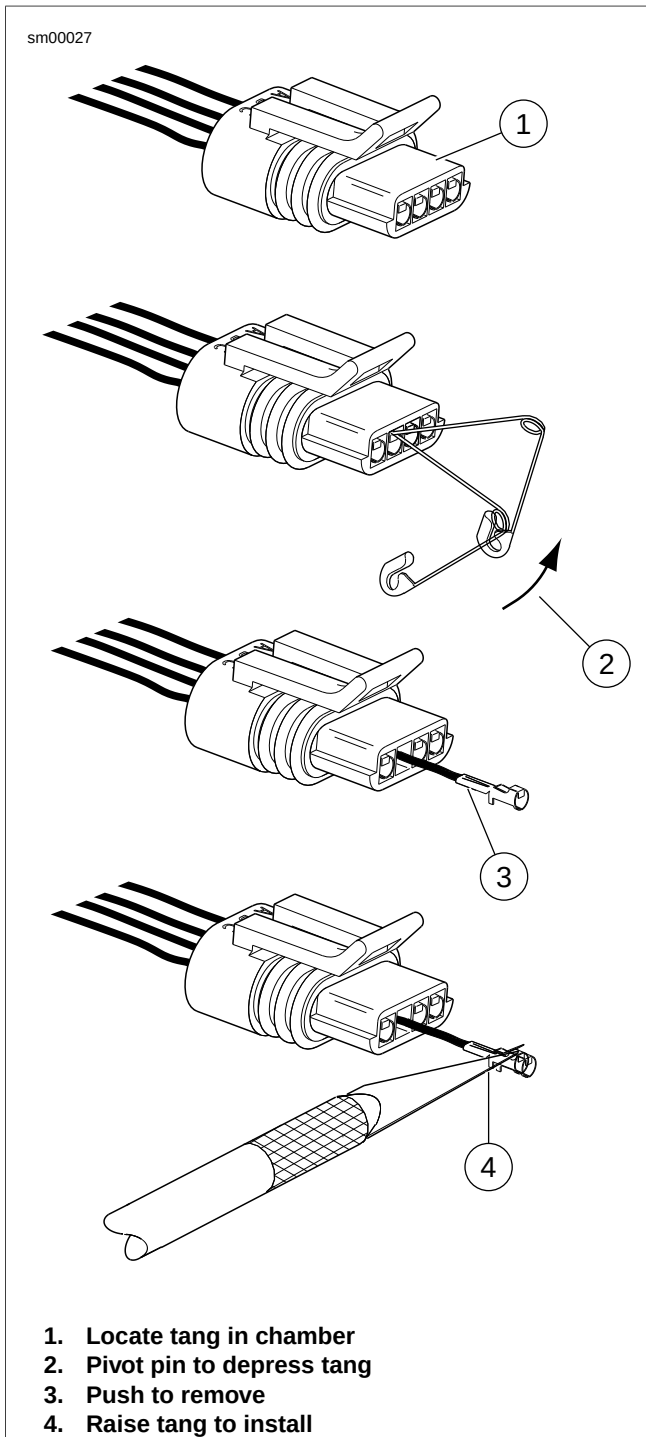
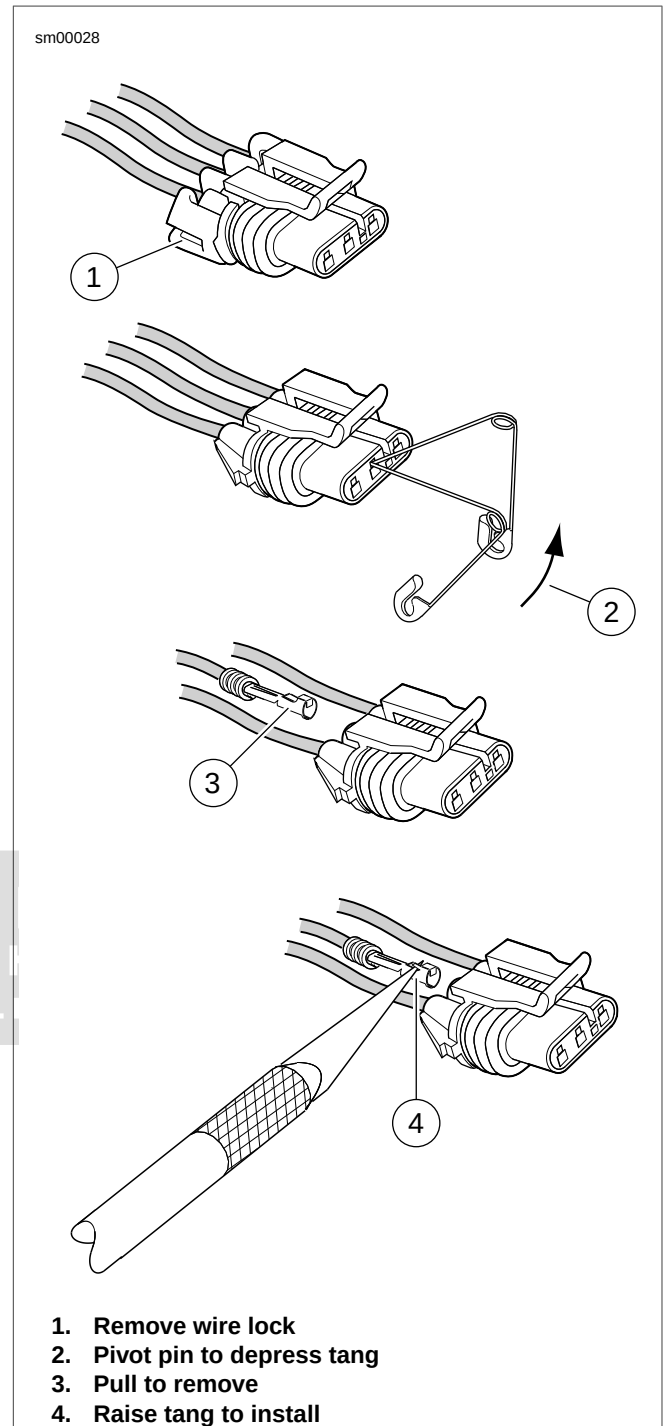

Figure A-25. 150 Metri-Pack Connector: Pull-to-Seat
Figure A-26. 150 Metri-Pack Connector: Push-to-Seat
1. See Figure A-25 for pull-to-seat connector or Figure A-26 for push to seat connector. Remove wire lock (1) from wire end of socket housing on push-to-seat type connectors.
1. See Figure A-25 for pull-to-seat connector or Figure A-26 for push to seat connector. Using a thin flat blade, like that on a hobby knife, carefully bend the tang outward away from the terminal body.
For push-to-seat: See Figure A-26. Seat wires in separate channels of wire lock and then push channels **inside** chambers at wire end of socket housing. Fully installed, slot on each side of wire lock engages ear on socket housing.